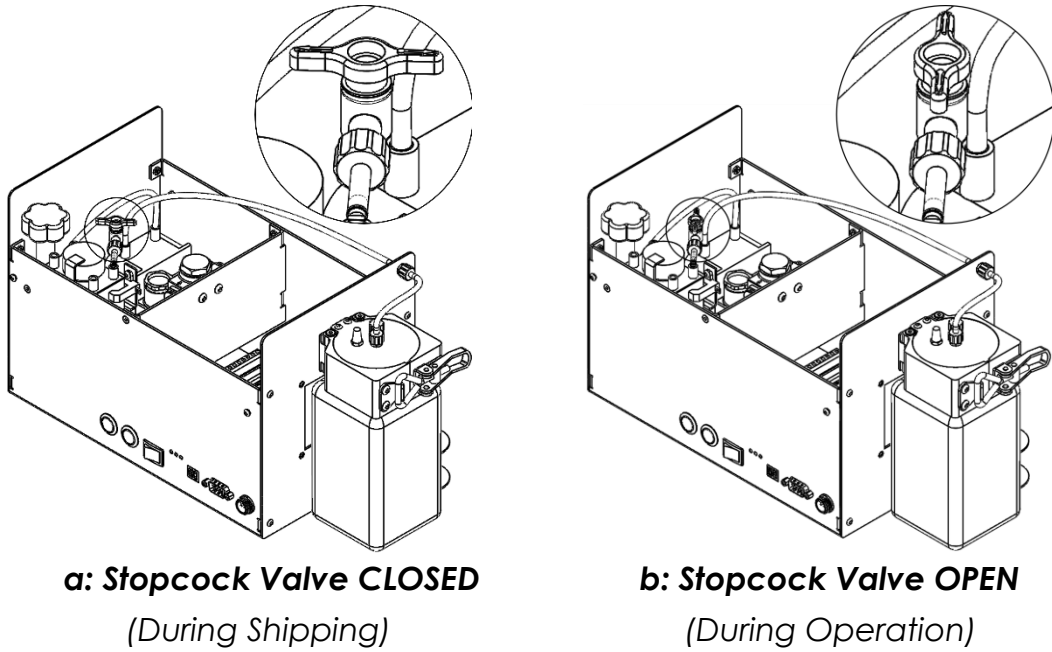

Figure 51
- 3) Shut the stopcock valve off as showed in Figure 51.